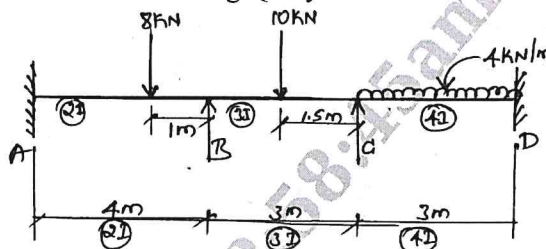

Fig.Q5
- 5 Analyze the continuous beam shown in Fig.Q5 by Kani's method and draw BMD.